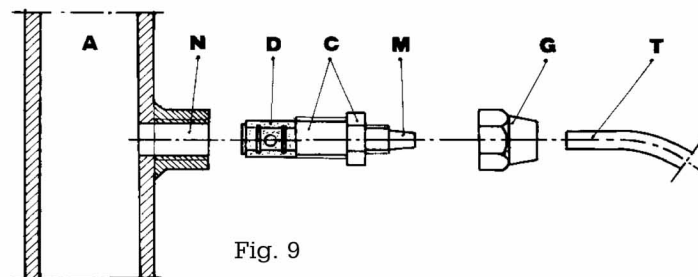

Fig. 9
- g. - Select the most appropriate injection point on a pipe of the plant to be treated and there fit a 3/8" female steel gas thread connector (similar to BSPm). This connector is not supplied with the pump. Screw the injection valve to the gas connector, inserting a gasket as shown in Fig. 9. Then connect the discharge hose to the conical connector on the injection valve and fix it with the supplied tube nut G. The injection valve also acts as no return valve by means of a cylinder sleeve (elastomer, standard supplied in Viton).
### 3.1 - INJECTION VALVE INSTALLATION DIAGRAM (Fig. 9)